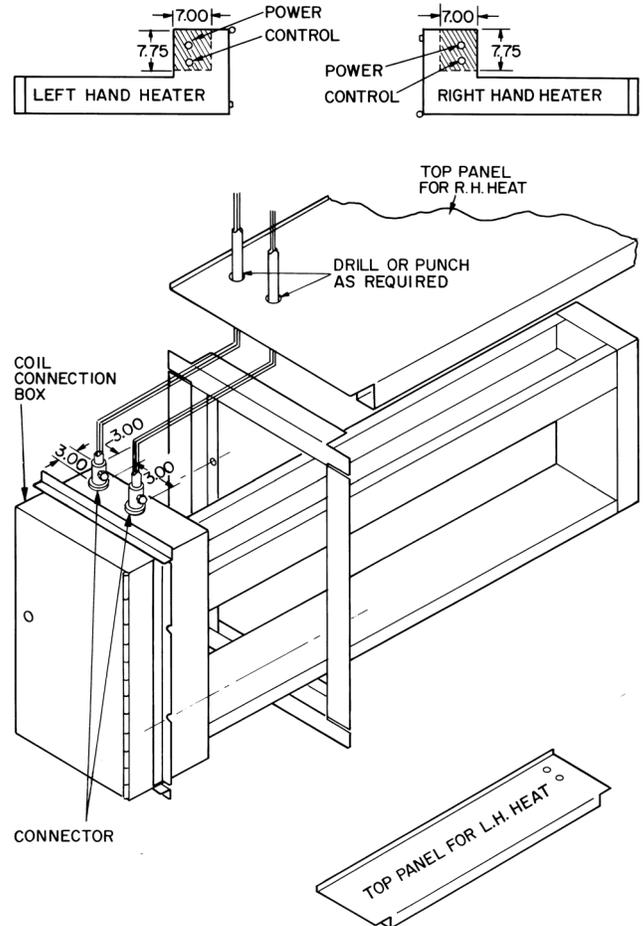

Fig. 74 – Electric Heater Installation
To install electric heater, refer to Fig. 74 and proceed as follows:
4. Remove top panel of the preheat-electric section and drill or punch 2 holes are specified in Fig. 74.